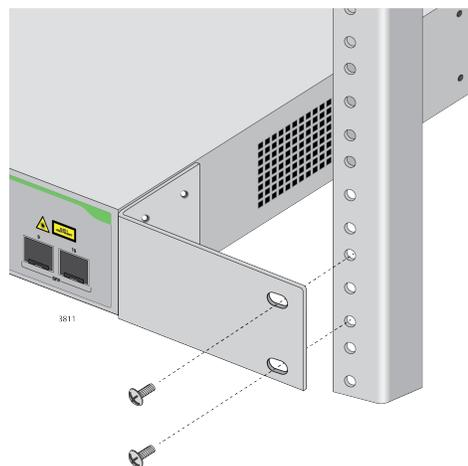

Figure 32. Mounting the Switch in an Equipment Rack
3. While another person holds the switch in the equipment rack, secure it using the equipment rack screws. See Figure 32.